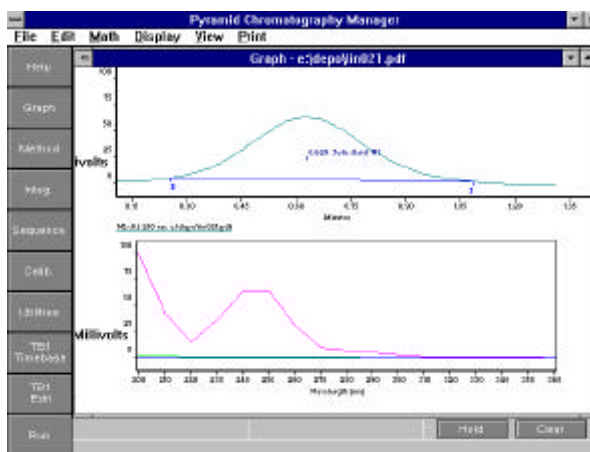

Figure 15.5 Typical Data Ally PDA Graph Screen
2. One to four individual wavelengths are captured and saved in real time and are also displayed on the upper window of the PDA graph screen as shown in Figure 15.5